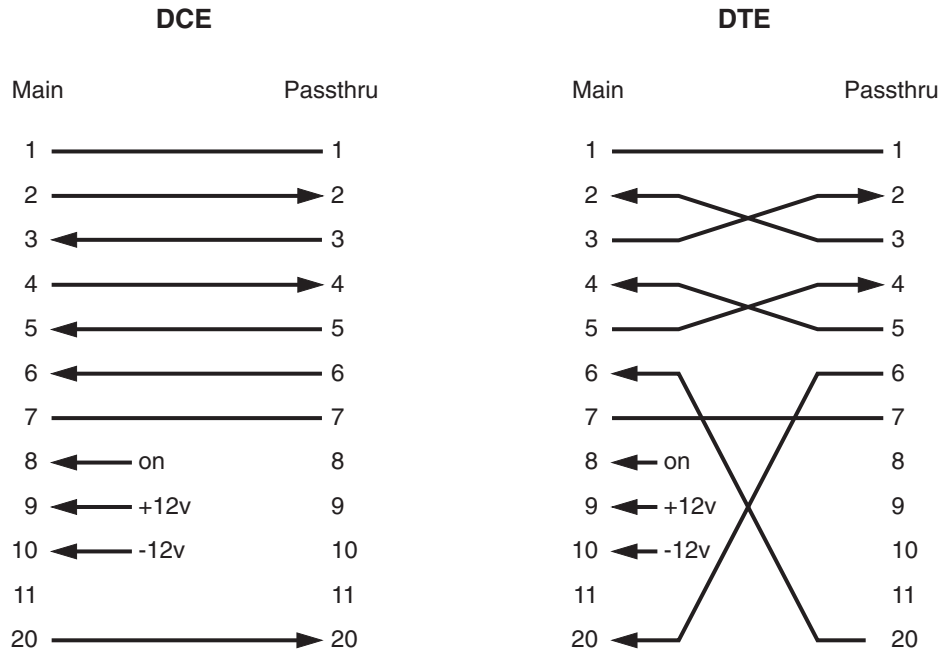

Figure 3-2. Passthrough Mode Signal Handling.
and peripherals, such as serial printers, are classified as DTE. A DTE device is usually connected to a DCE device. When connecting two devices of the same type, a crossover cable must be used (Figure 3-2).
When the main port is set for DCE, signals between the main port and the passthrough port are transferred directly (pin-to-pin). When the main port is set for DTE (for passthrough), the A/C-4 (B) performs some of the functions of a crossover cable. During passthrough, the A/C-4 (B) handles the signals as illustrated in Figure 3-2, with signal crossover shown on the right-hand side.